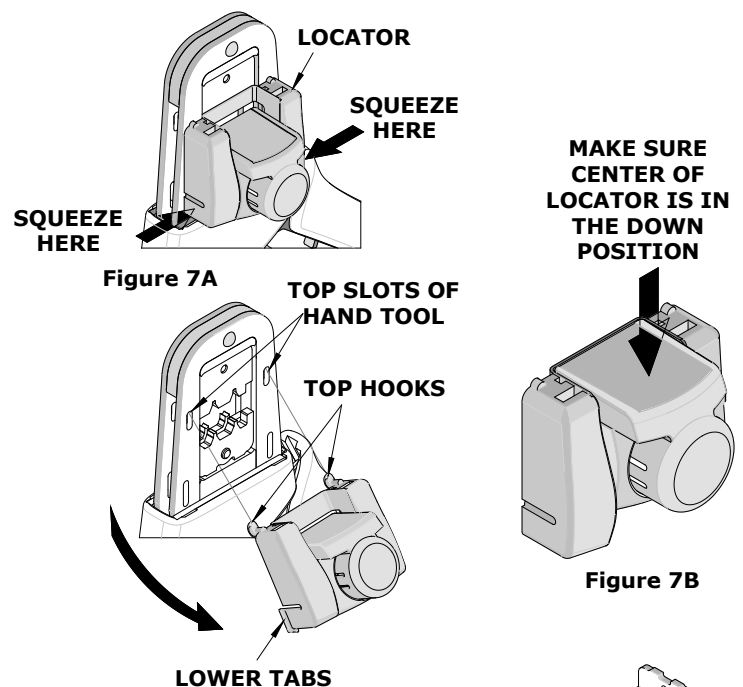

Figure 7B
5. Press the center of the locator down as far as it will go as shown in Figure 7B.